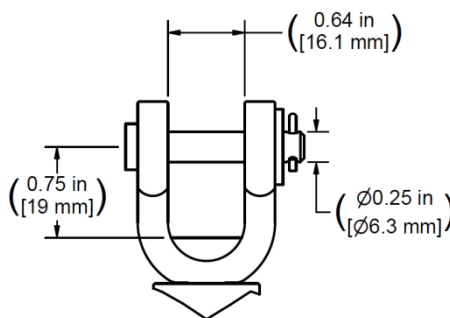

FIG. 01
- Attach retractor to main support located above work area with upper mount (swivel fork) and clevis pin. - See **FIG.01**
- Secure clevis pin with washer and cotter pin. - See **FIG.01** for upper mount reference dimensions.